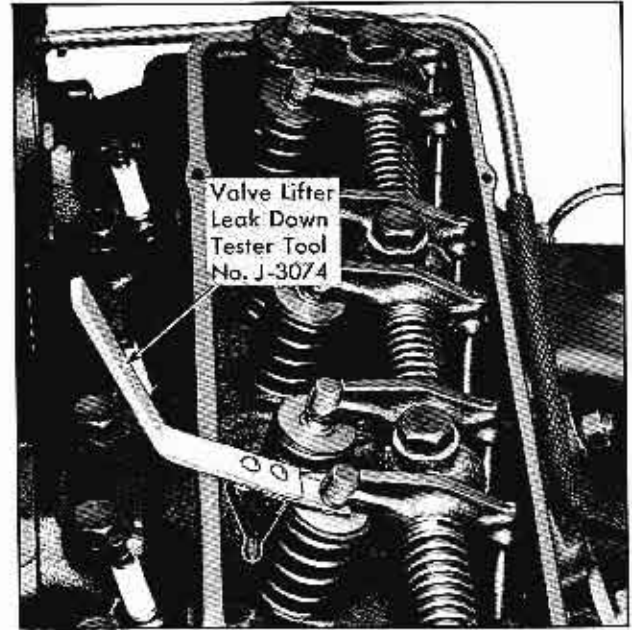

Fig. 10-12 Checking Valve Lifter Leak Down
9. Insert feeler gauge of tool between valve stem and rocker arm and at the same time compress tool "pop-out" spring against valve spring retainer, Fig. 10-12.